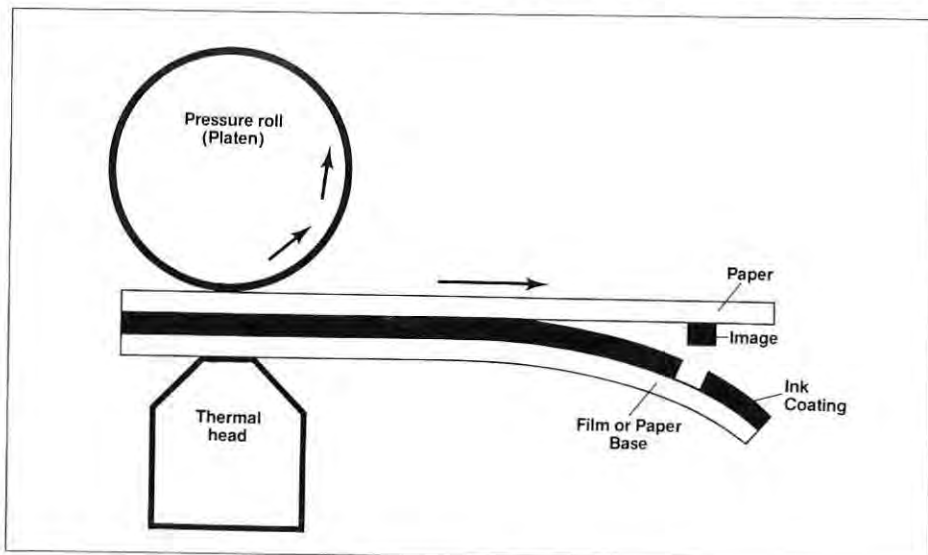

Fig. 1: Basic principle of thermal-transfer printing.
**I**F THE FUTURE of thermal-transfer technology can be expressed as a color, try rosy as the hue that best describes the potential of this fledgling technique in the art of printing, which was developed in 1975 by Fuji Kagkushi Kogyo Co. of Osaka, Japan. By way of a basic definition, thermal-transfer printing can be described as a non-impact printing technology that uses thermal energy to transfer ink from an inked coated substrate to a receptor sheet. Perhaps even more understandable would be this simplification for a typewriter or word processor—a technology that uses heat to melt ink from a ribbon to a sheet. Impact dot-matrix or daisy-wheel printers and conventional typewriters print by the hard impact of the typing element to the ribbon, which in turn forces ink from the ribbon to the paper. In thermal printers the ink transfer is caused not by the impact of the printing element to the ribbon, but by the heating up of elements on the print head to melt the ink on to the paper [Fig. 1].